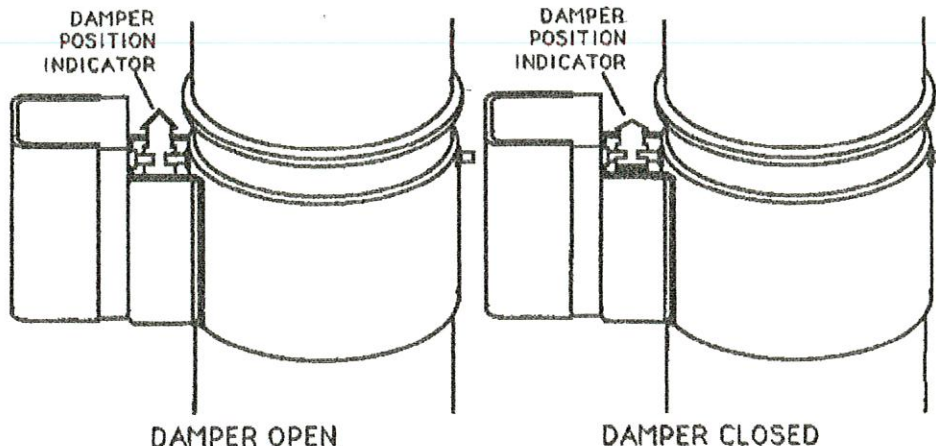

FIG. 4- VENT DAMPER POSITION INDICATOR SHOWING OPEN & CLOSED POSITIONS.
1. When the furnace or boiler is off, check that the vent damper position indicator points to the closed position, Fig. 4.
2. Turn the thermostat or controller up to call for heat and check the vent damper indicator points to the open position, Fig. 4.